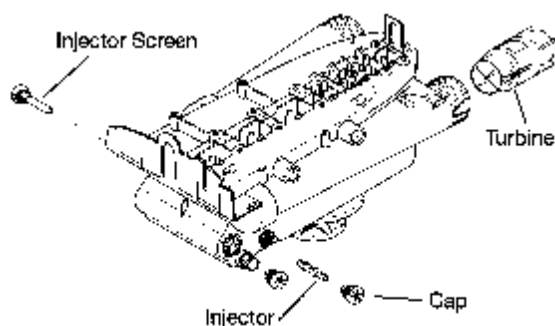

Figure 9
4. Using a screwdriver, remove the injector screen and the injector cap, (Figure 9).
4. Using a needle-nose pliers, remove the turbine from the outlet housing. Grasp one of the four vanes of the outer gland and pull straight out to remove turbine assembly from the outlet of the valve (Figure 9).